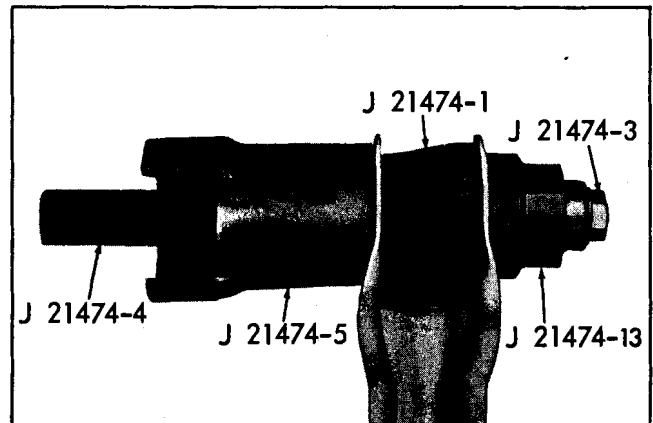

Fig. 4-6 Installing Upper Control Arm Rear Bushing - Except Firebird
1. Install bushing in axle housing by arranging tools as shown in Fig. 4-6 and press into place.